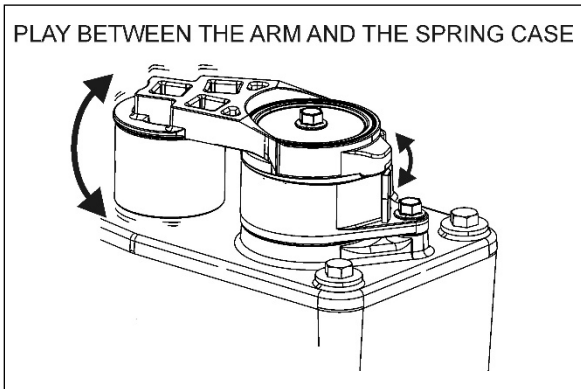

FIGURE 26: CHECKING BUSHING WEAR
2. Pry the automatic belt tensioner arm and check for a play between the arm and the spring case (FIGURE 26).